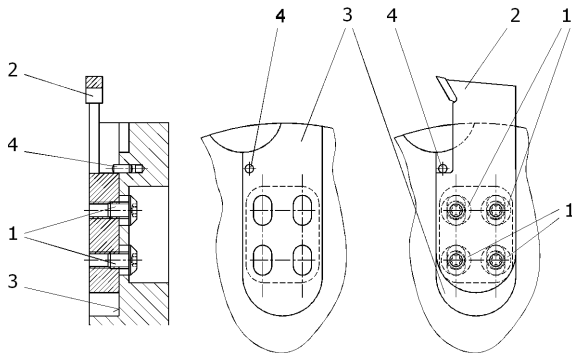

Fig. 1
(see Fig. 1)
2. Loosen screws (1) with a Torx key and remove them completely from the knife seat.
3. Remove TOP-FIT grooving knife (2) from the knife seat.
4. Clean knife seat (3) and all parts that go with it. Make sure that all clamping surfaces are free from dirt, oil, grease and water.
5. Mount precisely new TOP-FIT knife (see Fig. 1).
6. Insert the correct screws again and push the TOP-FIT knife properly against the positioning pin (4).